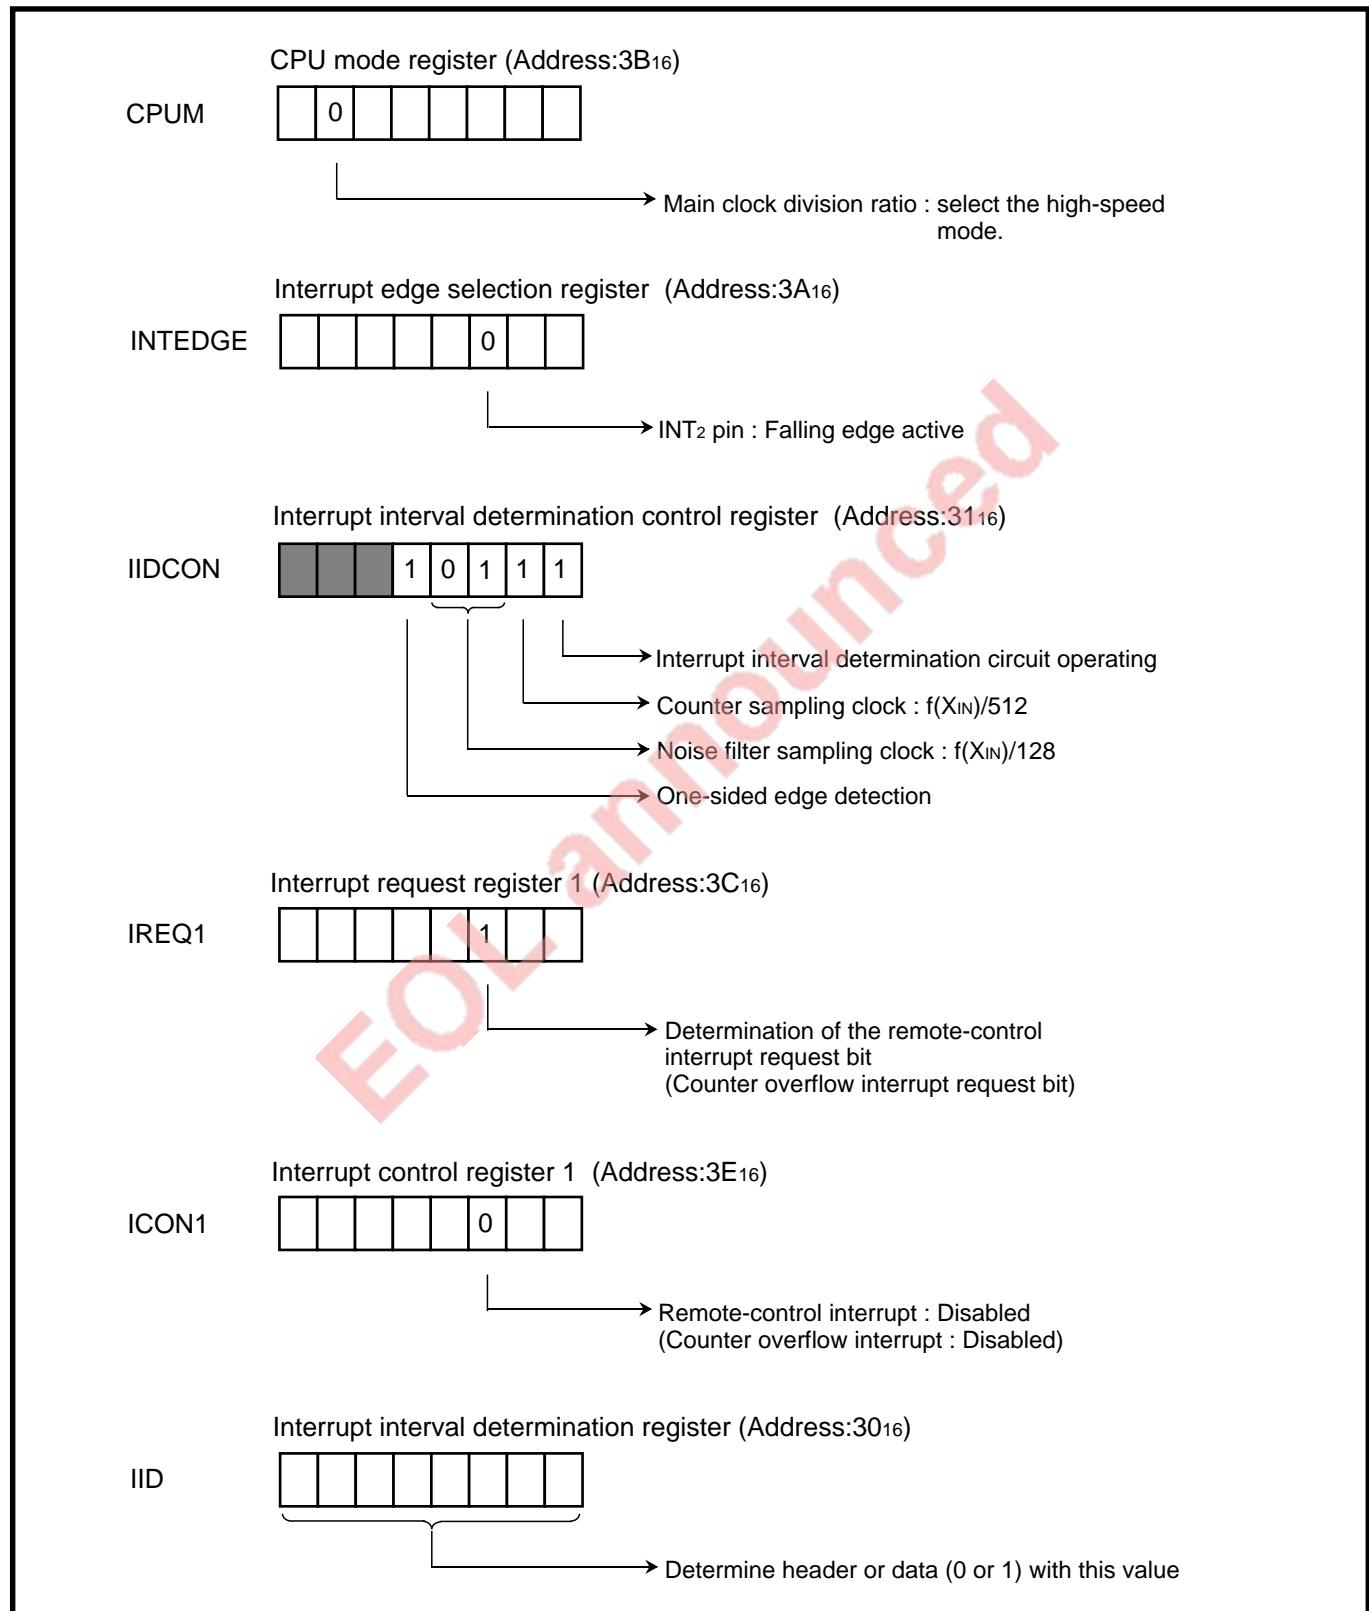

Fig. 2.6.9 Setting of related registers [Reception of remote-control signal]
Figure 2.6.9 shows a setting of related registers.
**Control procedure :** When the registers are set as shown in Figure 2.6.9, remote-control signals are receivable. Figure 2.6.10 shows a control procedure and Figure 2.6.11 shows reception of remote-control signal (Timer 2 interrupt).